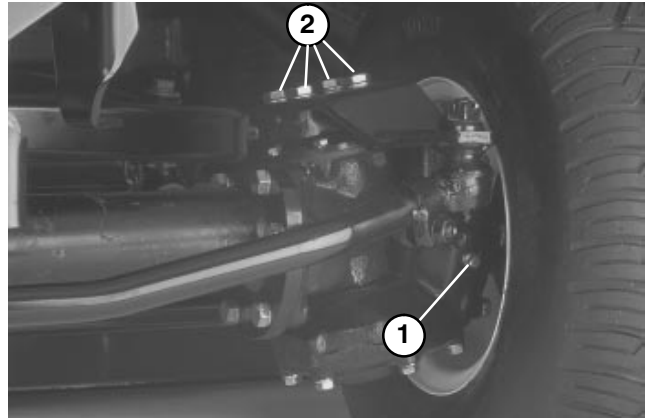

Figure 19
(Fig. 19 & 20) (Models 03541 & 03544 only)
2. Remove a check plug from each end of axle and make sure lubricant is up to bottom of hole. If level is low, remove one of the mounting bolts above each end plug and add enough lubricant to bring the level up to the bottom of the hole (Fig. 19).